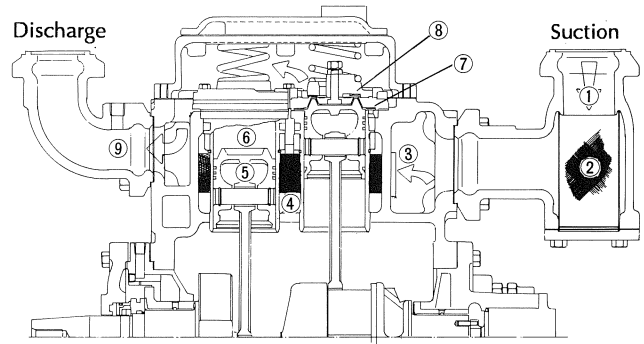

Fig. 1 Compression Mechanism
2.1.1. Single stage compression (Ref. Fig. 1)